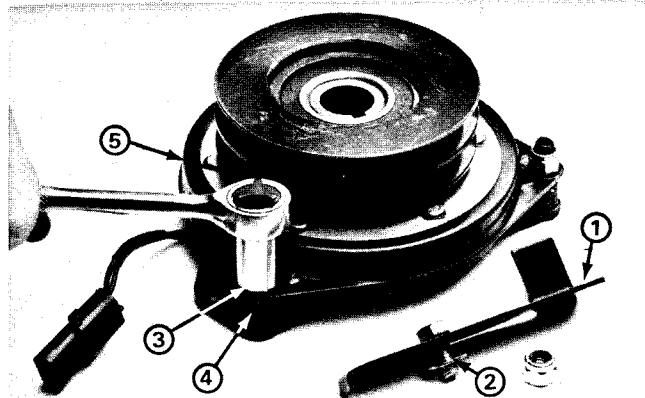

Figure 26
2. Remove the clutch anchor lever (Fig. 25). Note the position of the flat washer. When reinstalling the lever make sure the washer is between the anchor lever and clutch (Fig. 26).
3. Remove the three (3) lock nuts (Fig. 26). Remove the brake plate and three (3) springs.